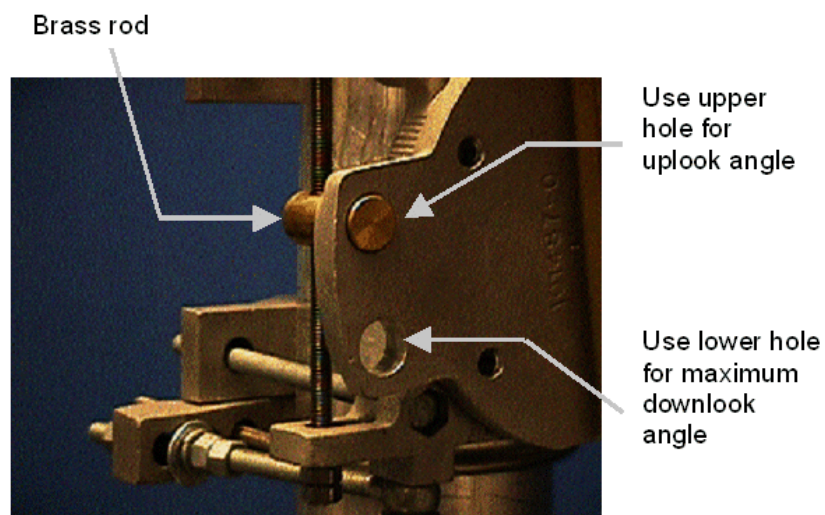

Figure 9-8: Inserting the Brass Rod
2. Insert the brass rod into the elevation adjustment hole. For maximum downlook, insert the brass rod into the lower hole. For uplook angle, insert the rod into the top hole (see Figure 9-8).